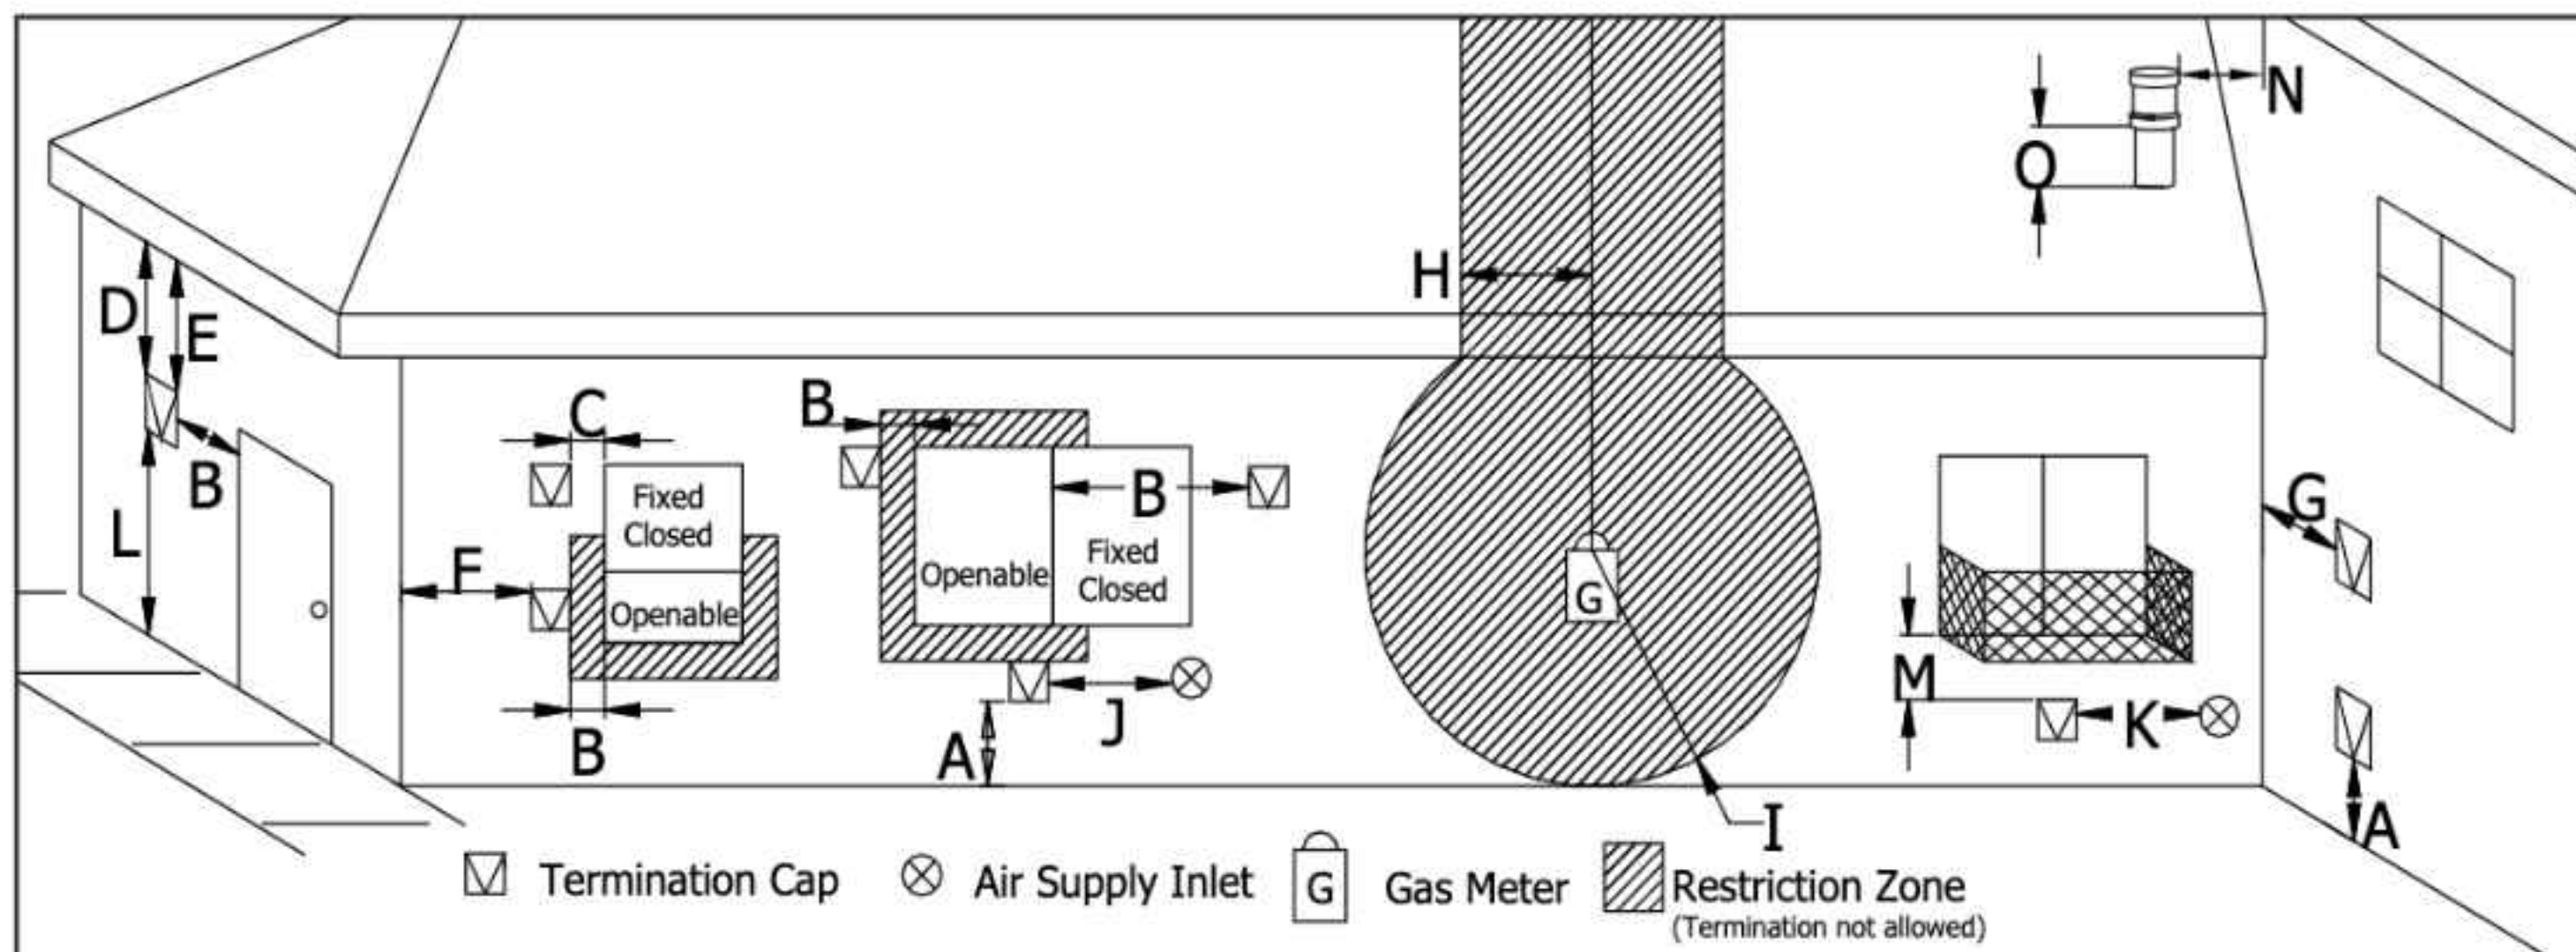

Figure 19. Vent Termination Restrictions, refer to Table 1.
- Refer to Figure 19 and Table 1 for vent termination clearances and restrictions.
Table 1: Vent termination clearances, refer to Figure 19.